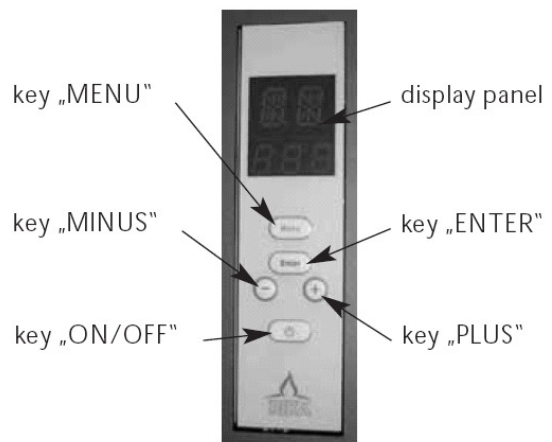

Fig 1. Internal operating unit, key layout
(Fig. 1)
1. Measure and draw the chimney connection (taking any floor plate thickness into consideration). (Fig. 1) We recommend determining the dimension of the flue pipe discharge directly at the oven.